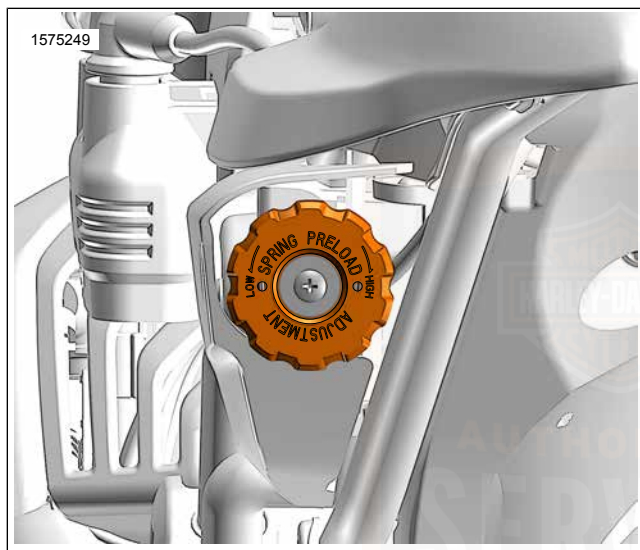

Figure 20. Preload Adjuster
1. See Figure 20. Rotate the preload adjuster knob clockwise in the HIGH direction to increase preload setting, or counterclockwise to decrease preload setting until desired setting is reached.
3. See Figure 20. Adjust preload adjuster knob to the desired number of clicks.